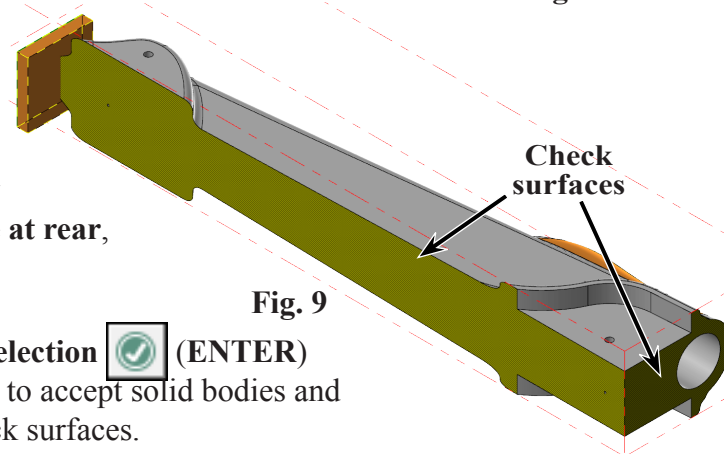

Fig. 9
Step 9. Click the **flat face on the underside of Body and flat face at rear**, Fig. 9.